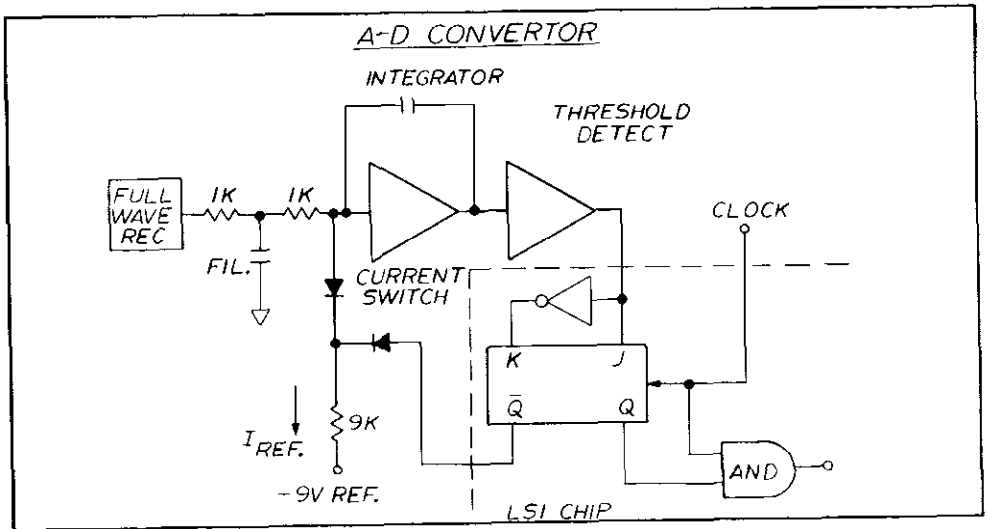

FIGURE 14. A/D Converter Block Diagram
a. A-to-D Converter. The a-to-d converter operates on a charge balancing principle. The circuit operates only with unipolar inputs. A block diagram of the converter is shown in Figure 14. The positive output of the rectifier tends to drive the integrator output negative (amplifier QA104). The rate of integration is a function of the input, resistor RN103-2 and capacitor C120. As the integrator goes negative the threshold detector (amplifier QA105) output goes to a positive level. A positive level represents a "1" at the J input of the J-K flip-flop (the K input is a "0" due to the NAND gate). The charge and discharge periods for the integrator are determined by the state of the \bar{Q} output on the J-K flip-flop. When the \bar{Q} output is high, diode QA107-1 is back biased off and the integrator can only be charged by the FWR output. When the \bar{Q} output is low, diode QA107-1 is forward biased and discharge of the integrator is possible. Since the Q and \bar{Q} states can be changed only when a clock pulse is present, the charge/discharge periods are a function of the clock frequency as well. The a-to-d converter operates in a free running manner. The timing period is a total of 2016 counts. The reading is derived by counting the total number of clock pulses in the discharge period over a span of 2016 counts. This is accomplished by an AND gate as shown in Figure 20. For example, a 1 volt input would result in a total discharge period of 1000 counts. An input of 250 millivolts would represent 250 counts out of 2016. However, an input of 2.1 volts would cause the 167 to uprange since the total count would exceed 2000 which is the upranging level. The input filter ahead of the integrator provides up to 18 dB filtering at line frequencies. (The total normal mode filtering is approx. 55 dB at 60 Hz.)